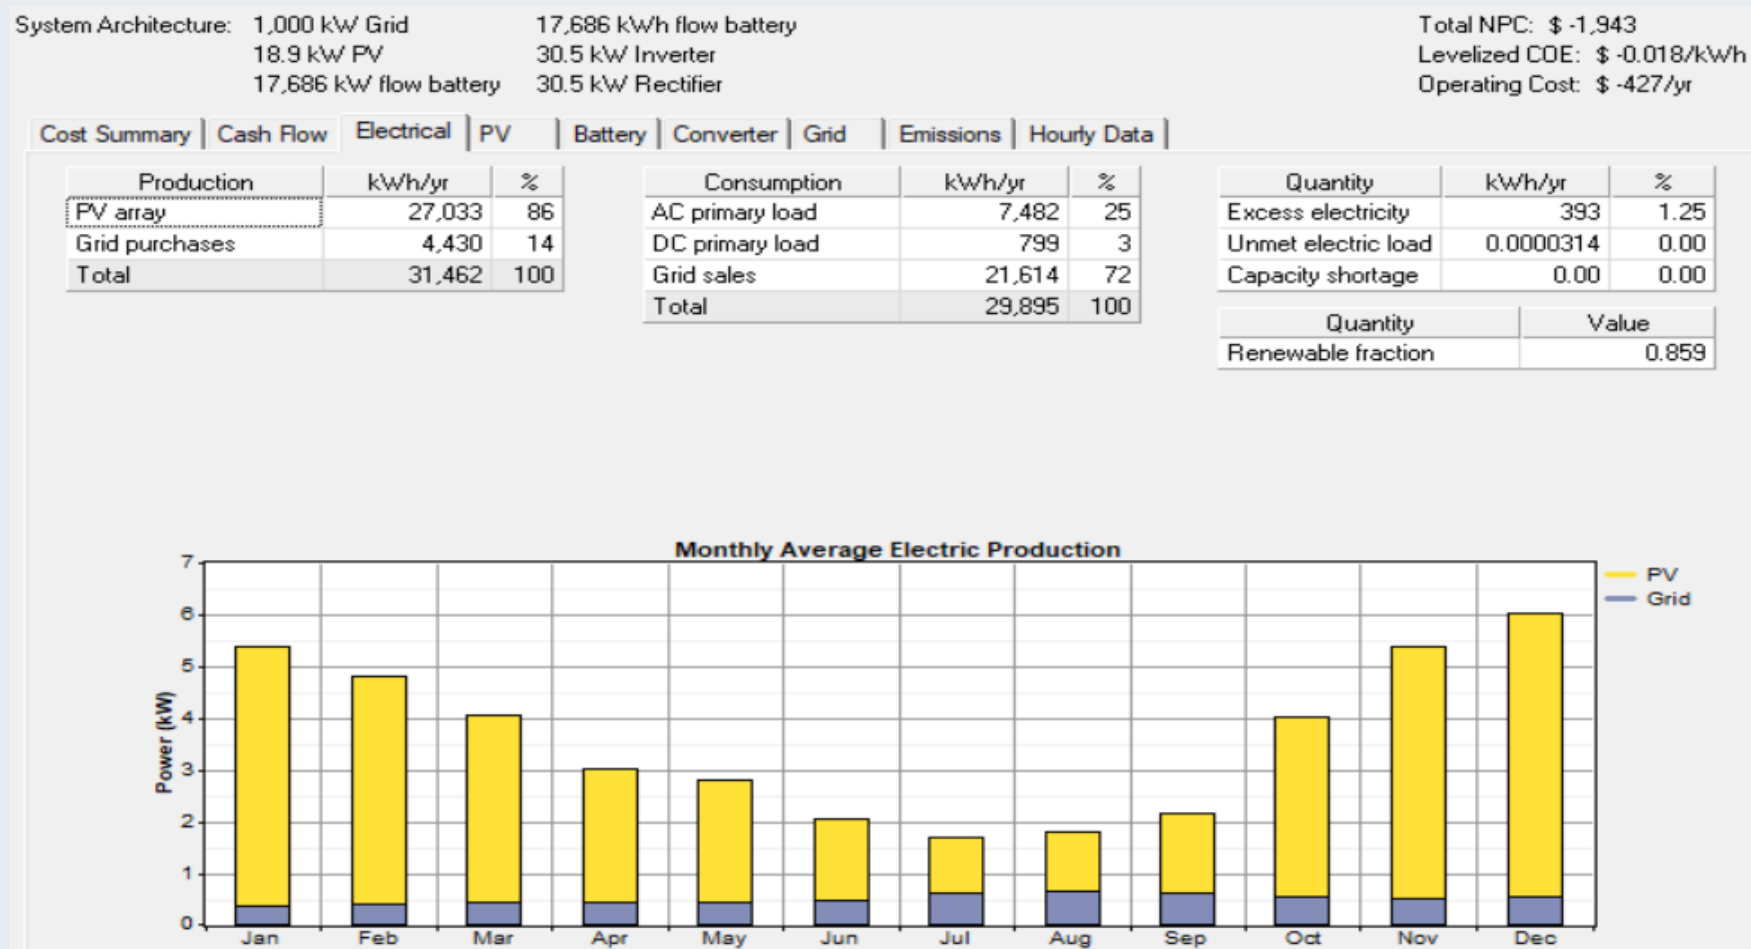

Figure 19 Monthly average electricity production of PV vs Grid
- The monthly average energy production is presented in Fig.19